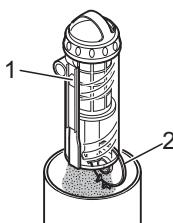

Fig. 18
3. Push the release button (Fig. 18/1). The base (Fig. 18/2) opens and the dust runs into the dustbin.